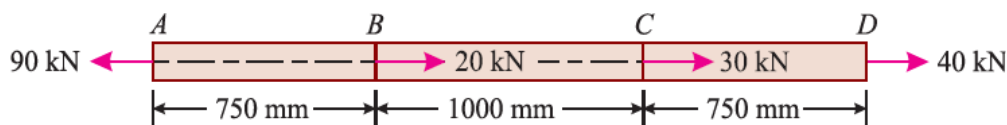

Fig. No. 1
B) A steel bar of 600 mm² cross sectional area is carrying loads as shown in fig. No. 1